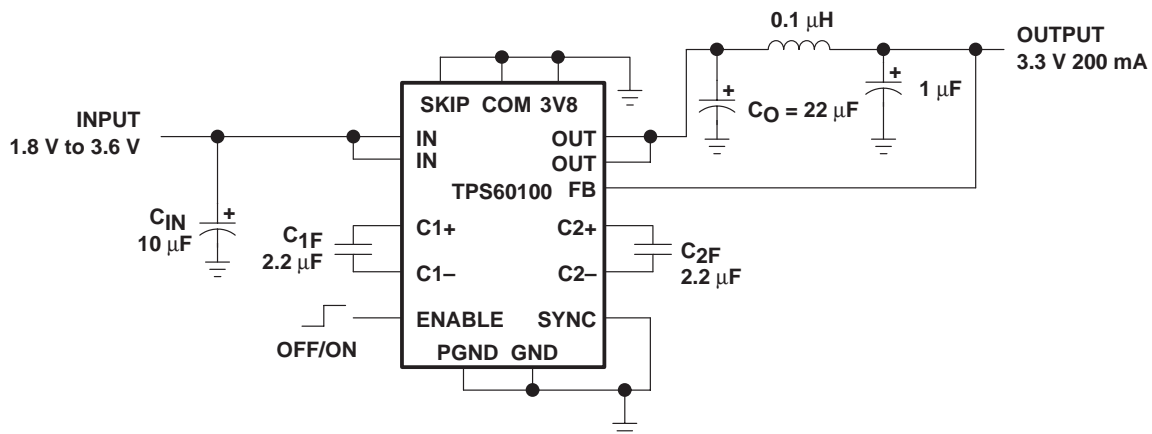

Figure 35. TPS60100 With LC Filter for Ultra Low Output Ripple Applications
For applications where extremely low output ripple is required, a small LC filter is recommended. This is shown in Figure 35. The addition of a small inductor and filter capacitor will reduce the output ripple well below what could be achieved with capacitors alone. The corner frequency of 500 kHz was chosen above the 300 kHz switching frequency to avoid loop stability issues in case the feedback is taken from the output of the LC filter. Leaving the feedback (FB) connection point before the LC filter, the filter capacitance value can be increased to achieve even higher ripple attenuation without affecting stability margin.